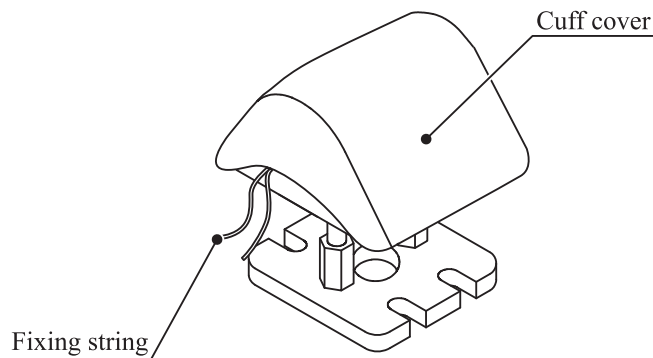

Figure-1
- ① Remove the cuff cover plate near the lower press prior to the work of changing the cover.
- ② Loosen the knot of the cuff cover and then remove it. (Figure-1)